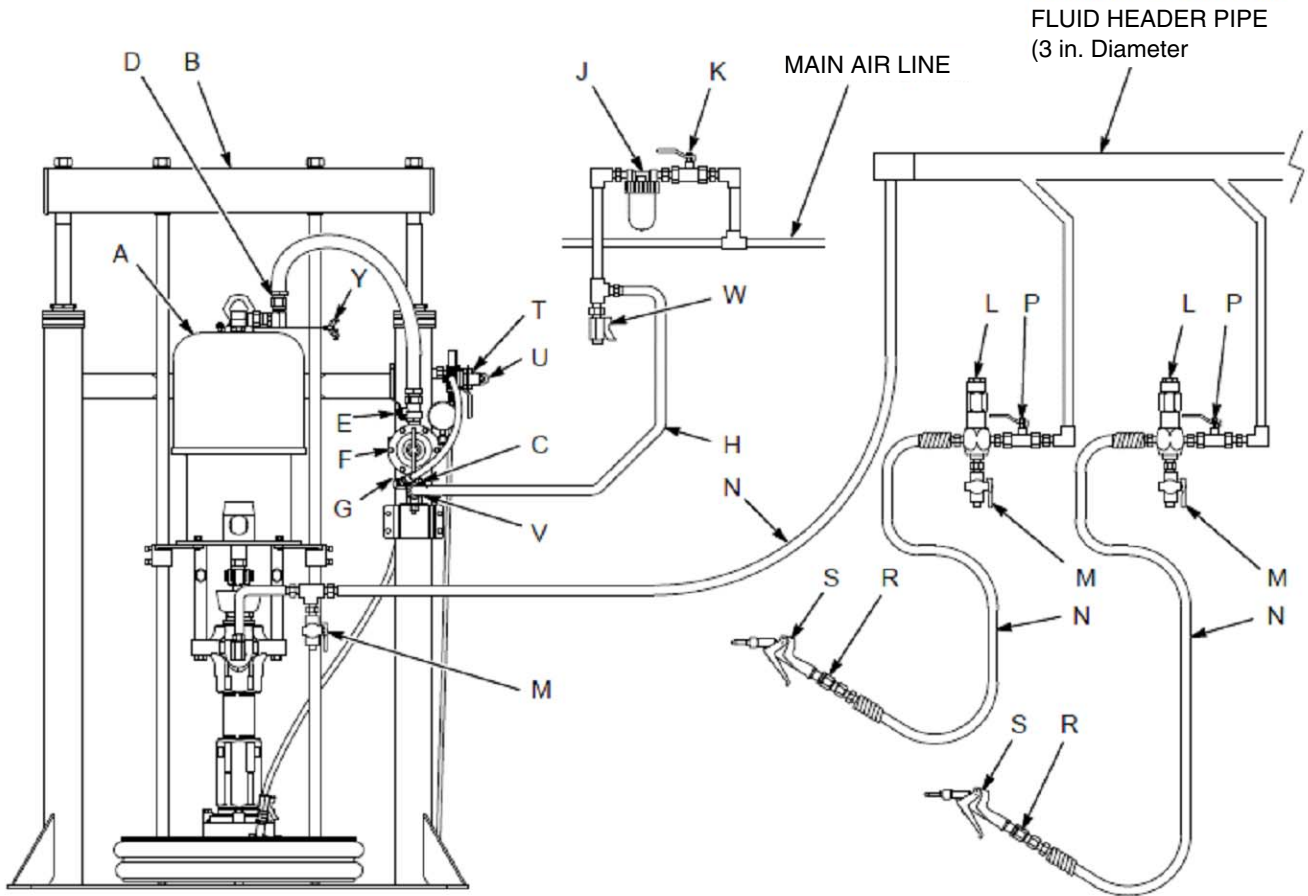

Fig.3
The Typical Installations shown in Figs. 3 and 4 are only guides for selecting and installing system components and accessories. Contact your Graco distributor for assistance in designing a system to suit your particular needs.
Mount the pump (A) to suit the type of installation planned. Fig. 3 on page 8 illustrates a ram-mounted pump in a multi-gun header system. Pump dimensions and the mounting hole layout are shown on page 49.
Install the following accessories in the order shown in Fig. 3, using adapters as necessary:
Install the following accessories in the positions shown in Figs. 3 and 4, using adapters as necessary:
- Install a **fluid shutoff valve (P)** at each gun/valve drop, to isolate the gun/valve and fluid accessories for servicing.
- Install a **fluid drain valve (M)** near the pump fluid outlet, and at each gun/valve station. The drain valves are required in your system to relieve fluid pressure in the displacement pump, hose and gun/valve (see the **WARNING** at left). Drain valves at the gun/valve stations may be mounted in the base of a **fluid regulator (L)**, using an adapter.
- **A fluid regulator (L)** controls fluid pressure to the gun/valve, and dampens pressure surges.
- **A gun or dispense valve (S)** dispenses the fluid. The gun shown in Fig. 3 is a high pressure dispensing gun for highly viscous fluids.
- **A gun/valve swivel (R)** allows freer gun/valve movement
2. See Fig. 3. Close the air regulator (F).
4. Hold a metal part of the gun/valve (S) firmly to the side of a grounded metal pail and hold the trigger open.